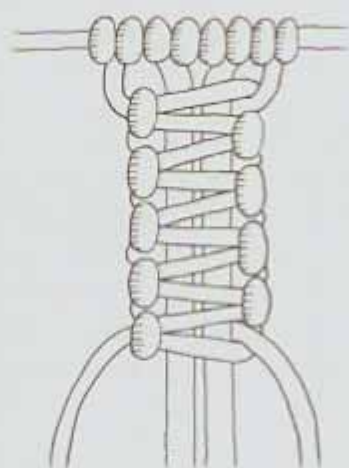

Fig. 15
7. The Square Knot - The **SQK** (Square Knot) is usually made with 4 cords, 2 outer knotting cords and 2 inner anchor cords. However, you can use just one or several inner cords depending on your design. For practice I suggest that you divide the 8 cords of your sampler into 2 groups of 4 cords. Tape one group of cords off to the side with masking tape or just drape them over a pin to get them out of the way for now. Make a Square Knot Chain with the group of 4 cords, one Square Knot under the other (see Figure 15). See Figure 17 for **SQK** directions.